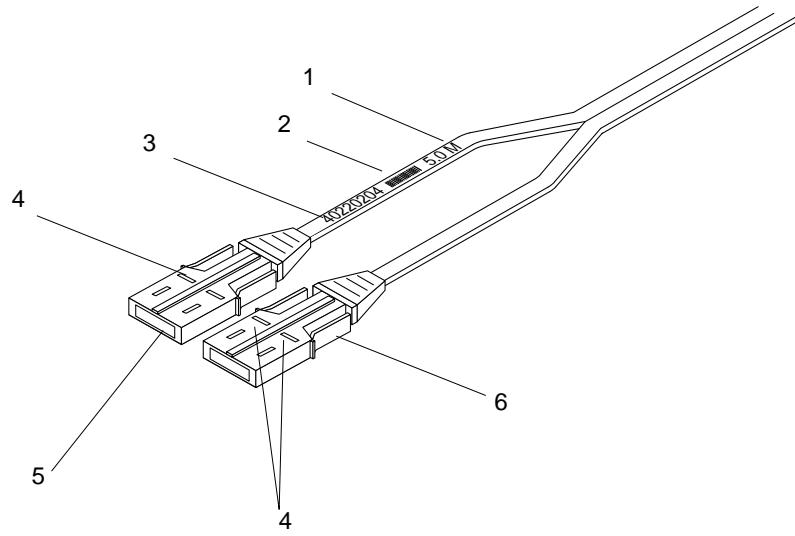

FIGURE 2-4 Sun Fire Link Cable
- Each cable has two plugs at each end (FIGURE 2-4). The white plug is the transmit cable, and the black plug is the receive cable.
- Each cable is labeled with a serial number that aids in cable route tracing (FIGURE 2-4).
- The cable connectors have a ridge on one side of the plug (FIGURE 2-4) that indicates proper alignment of the cable with the connector.